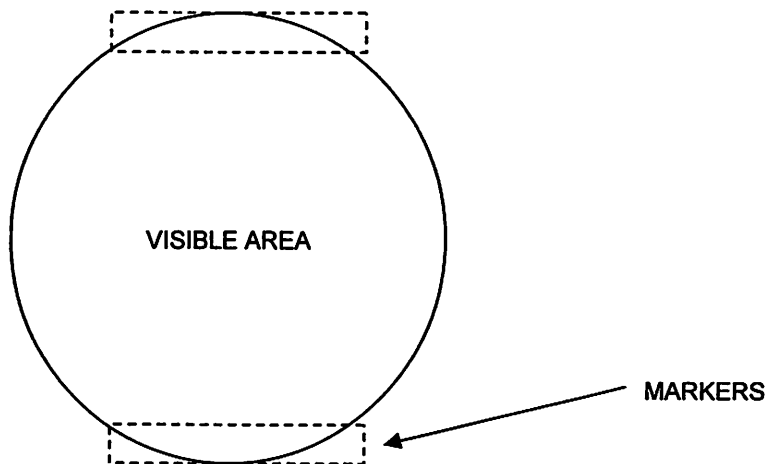

Figure 6.10
13. While viewing the markers through the image intensifier, activate the tube on and off, adjusting the parallel markers between exposures until the outer edges of the markers are no longer visible (Fig. 6.10)